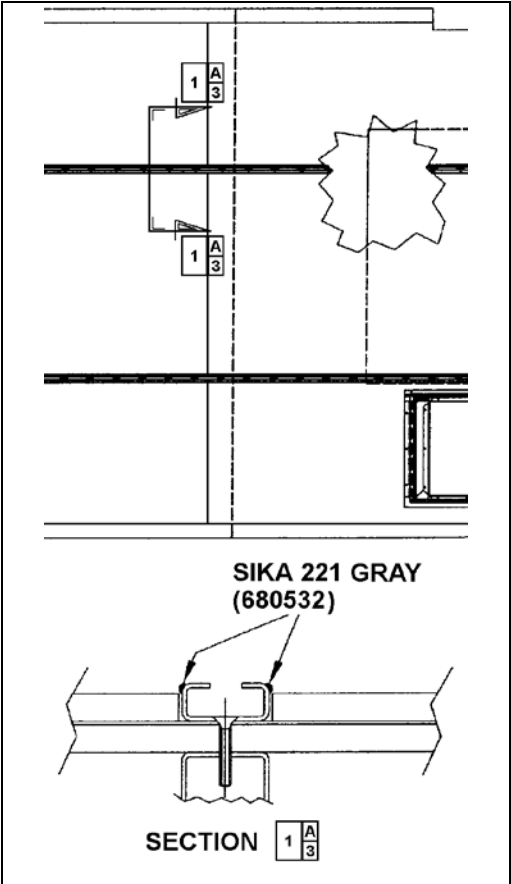

FIGURE 50: APPLICATION OF SIKI 221 GRAY 18641
8. Apply Sikaflex 221 gray sealant (680532) alongside passenger seat fixing tracks (refer to figure 50).